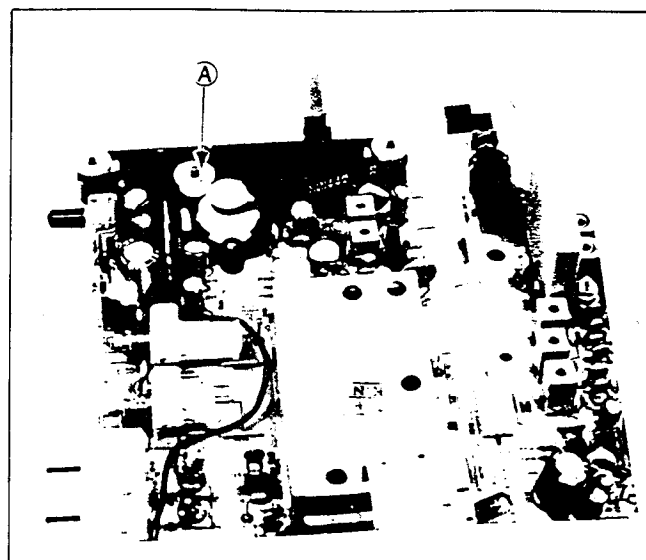

Fig. 5-5
1. Pullout the roller (A) in Fig. 5-5, and the dial belt is demountable or replaceable.